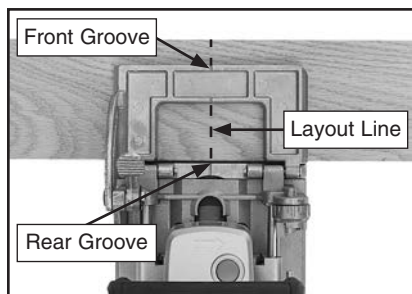

Figure 17. Biscuit joiner aligned with workpiece.
1. Place fence on workpiece so front groove and rear groove line up with layout line, as shown in **Figure 17**. Make sure faceplate contacts edge of workpiece.